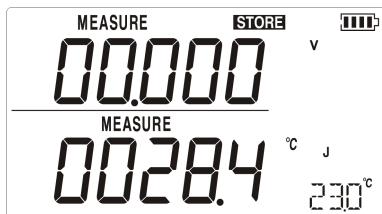

Figure 5.1.2-1
1. Press **STORE SETUP** key to enter the set mode, reading as shown in Figure 5.1.2-1, the appear of **STORE** sign shows that entering the setup mode, the assistant value **23.0** means the value of manual compensation.